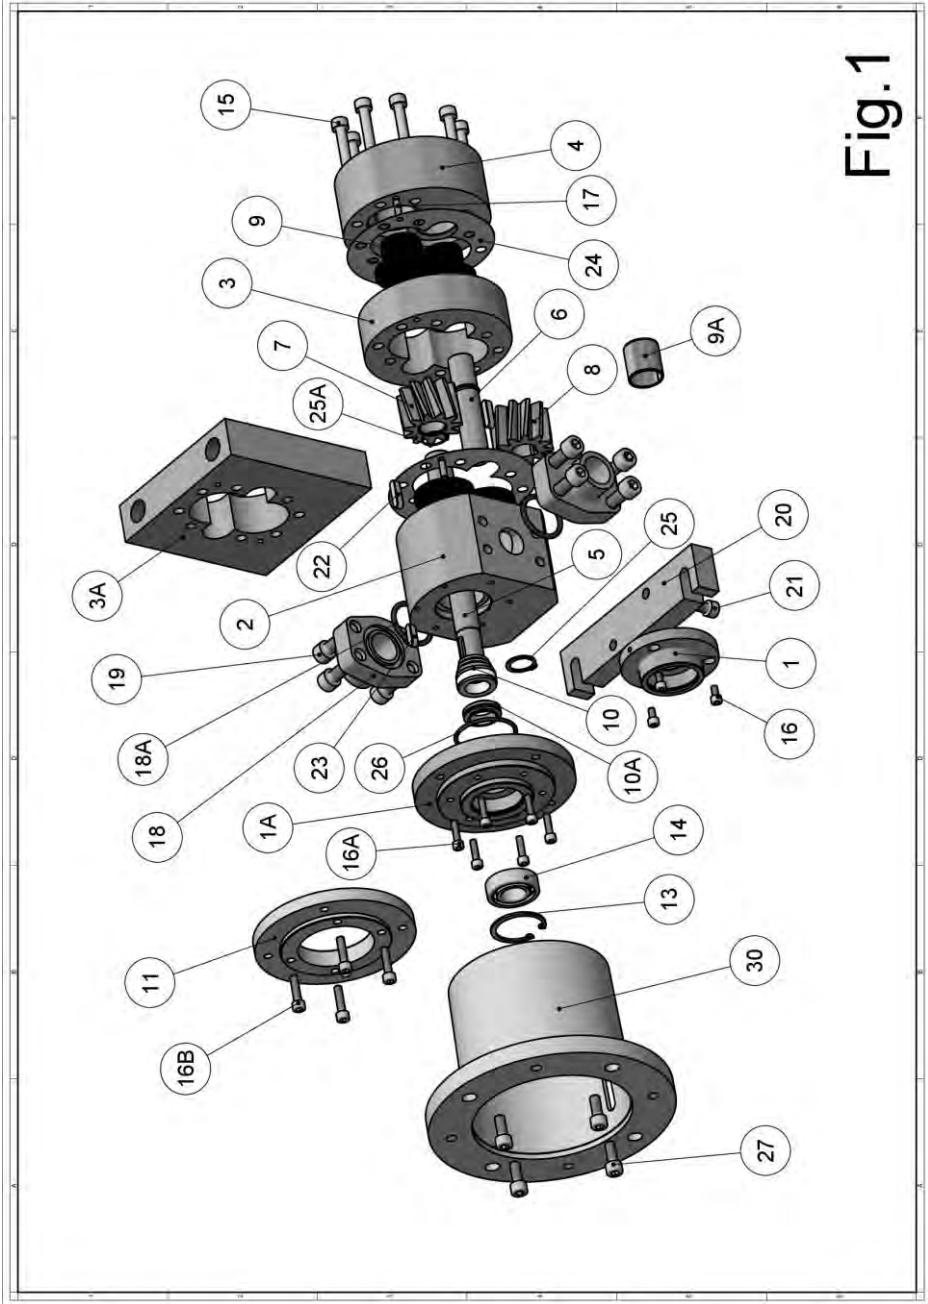

Fig. 1
d) Replacing supporting bushings (see Fig. 1 - for NF series pumps see Fig. 5)
e) Replacing gears and shafts (see Fig. 1 - for NF series pumps see Fig. 5)